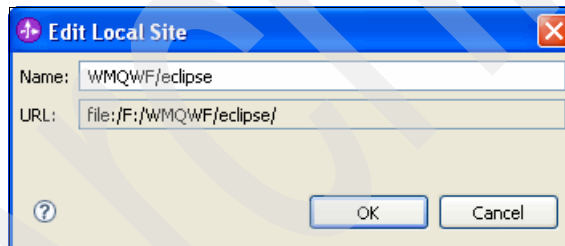

Figure 8-37 Setting the site name
- b. In the Edit Local Site window (Figure 8-37), click **OK**.